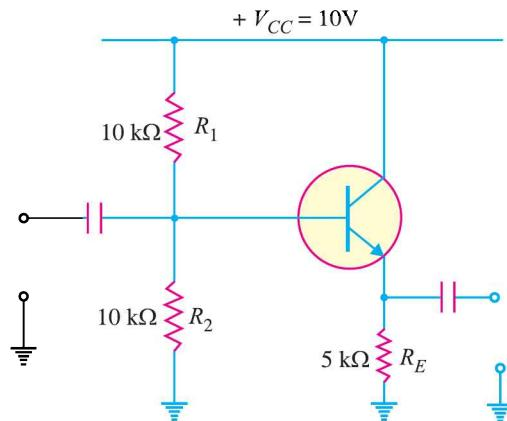

Fig. 13.18
**Example 13.20.** Determine the voltage gain of the emitter follower circuit shown in Fig. 13.18.